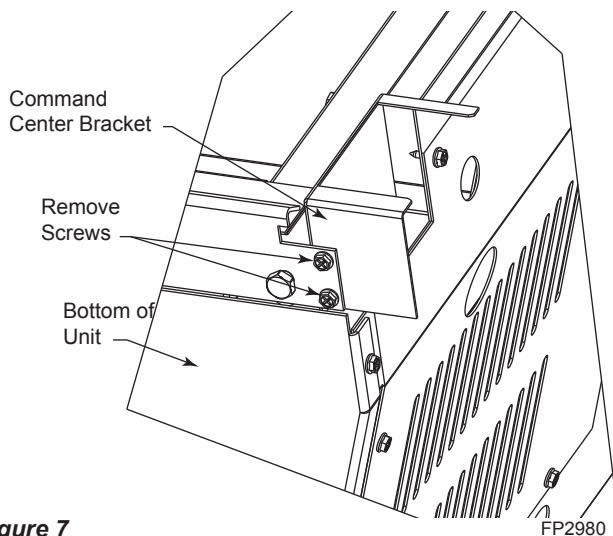

Figure 7
2. Carefully lay unit on its back. Remove two (2) screws holding bracket to insert. *Figure 7*